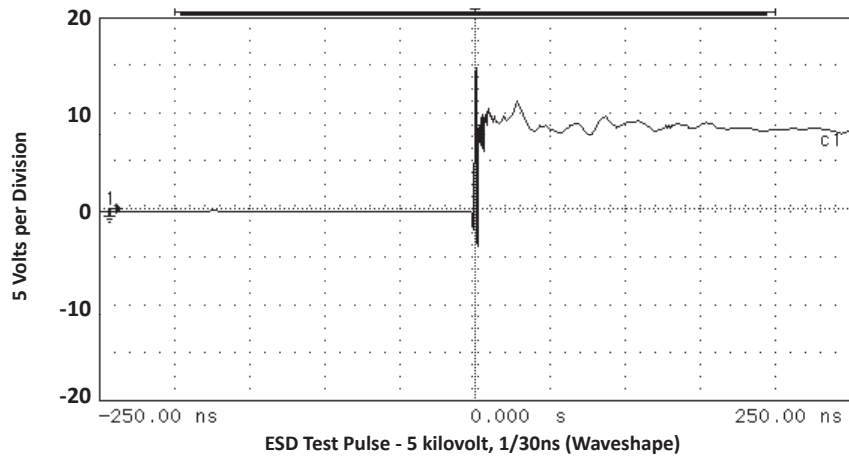

FIGURE 5
- As shown in Figure 5, REF 1 is connected to ground, REF 2 is connected to +V_{CC} and input applies to V_{CC} = 12V, V_{SIGN} = 30mV, F = 1MHz.